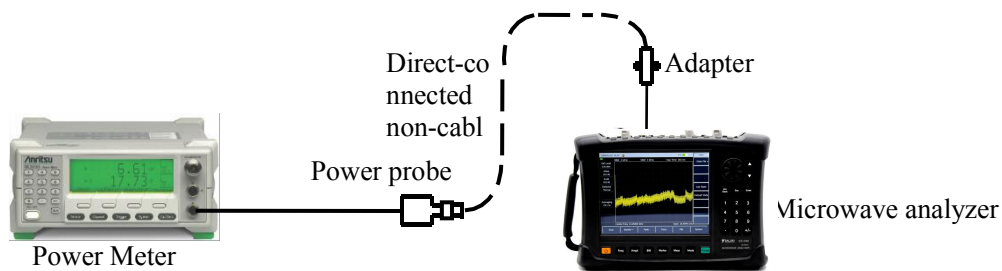

Figure 4-14 Test block diagram of power level accuracy
- 1) Connect the power meter ML2437A with the power probe MA2445D for zero calibration, as shown in Figure 4-14, and connect Port 1 of S5105 series microwave analyzer to the power probe through the adapter;
- 3) Press **【Calibrate】** →[Cal Kit] to select the correct calibration kit, then press [M Cal]→[One Port@S11], as shown in Figure 4-14, to complete the measurement of standard parts such as OPEN, SHORT and LOAD, and finally press [Done] to complete the calibration;
- 3) Press **【Calibrate】** →[Cal Kit] to select the correct calibration kit, then press [M Cal]→[One Port@S11], as shown in Figure 4-14, to complete the measurement of standard parts such as OPEN, LOAD and SHORT, and finally press [Done] to complete the calibration;